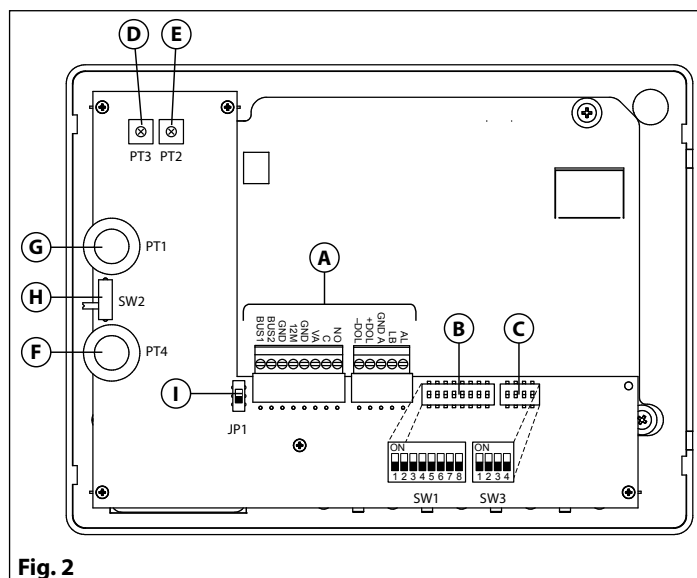

Fig. 2
- Pull outwards the left part of the cover as shown in **Fig. 2**. **Don't pull the cover straight.**